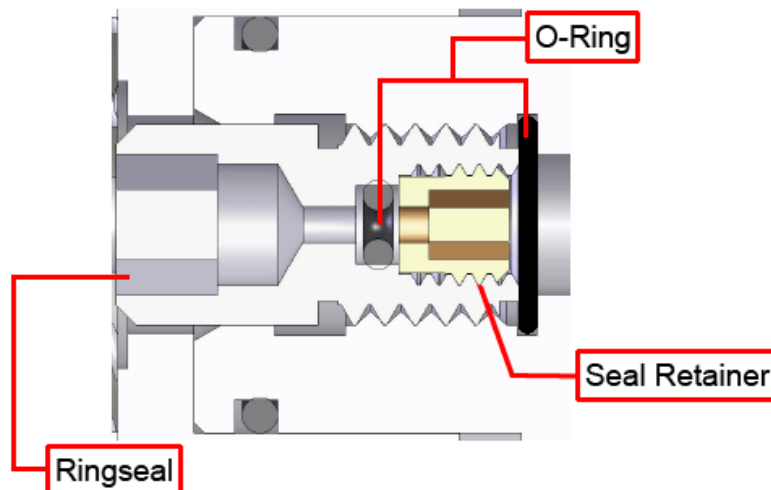

Figure 4-3: Cross-Section View of Ringseal Showing O-Ring
- Step 5: Remove the damaged or worn o-ring and replace it with a properly sized and lubricated new o-ring (as shown in Figure 4-3). A long pick or thin screwdriver will be necessary to remove the o-ring and replace it. Contact Aerotech for the appropriate o-ring size and type.